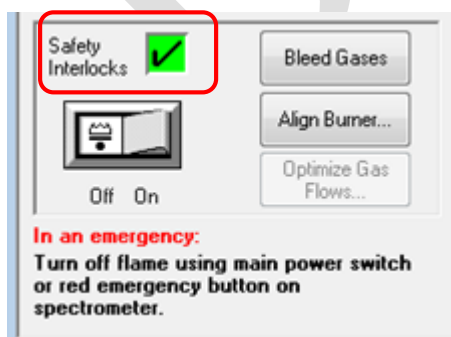

Fig. 12
3.1.14 Check the safety interlocks in the window of flame control. A green box with a check mark shows that the interlocks are satisfied (fig.12). Contact LFST if it shows a red box with an X.